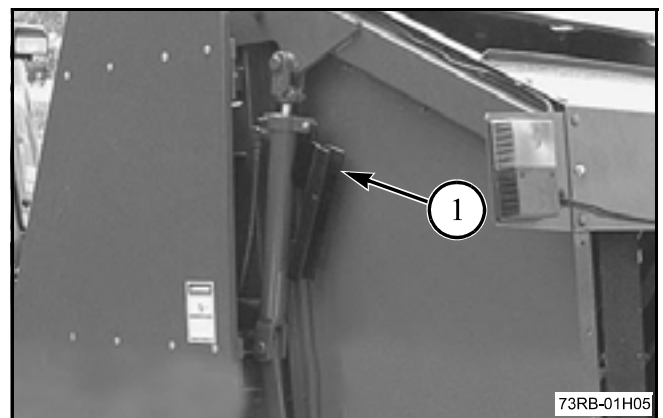

FIG. 5
FIG. 5: Make sure both tailgate cylinder stops are removed and in the storage position (1) before lowering the tailgate. Lowering the tailgate with one tailgate cylinder stop installed can twist the tailgate frame and cause belt tracking problems.